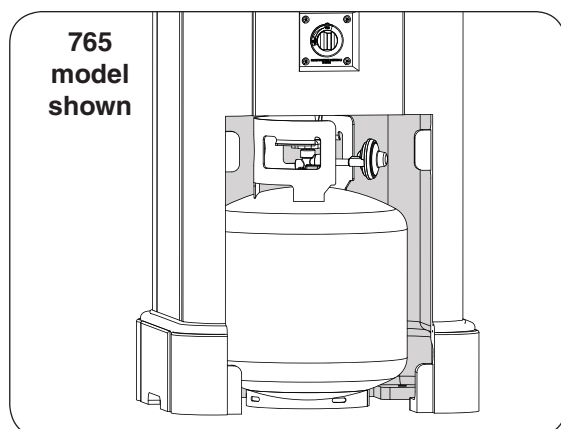

Fig. 17-2 L.P. Cylinder placement
3. The propane cylinder (not included) is to be located inside the base of the unit, via the storage door opening (see Fig. 17-2).